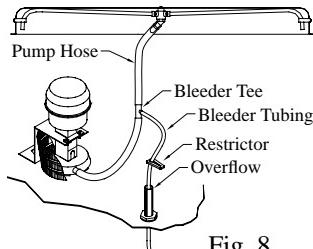

Fig. 8
- Install Bleeder Tee and Tubing.** Refer to figure 8.